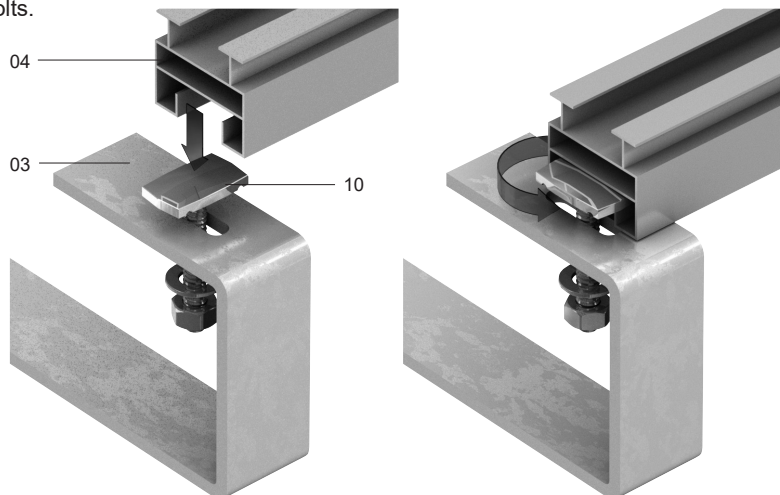

Figure 4-14: Fixing the Mounting Rail
2. Refer to Figure 4-14. Fix top mounting rail (04) to the roof anchor (03).